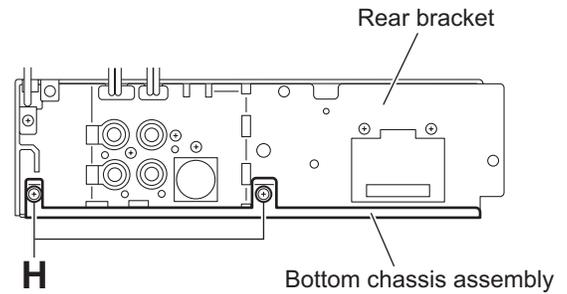

Fig.11
### 3.1.7 Removing the main board (See Figs.11 and 12)
- (1) From the rear side of the bottom chassis assembly, remove the two screws **H** attaching the rear bracket to the bottom chassis assembly. (See Fig.11.)